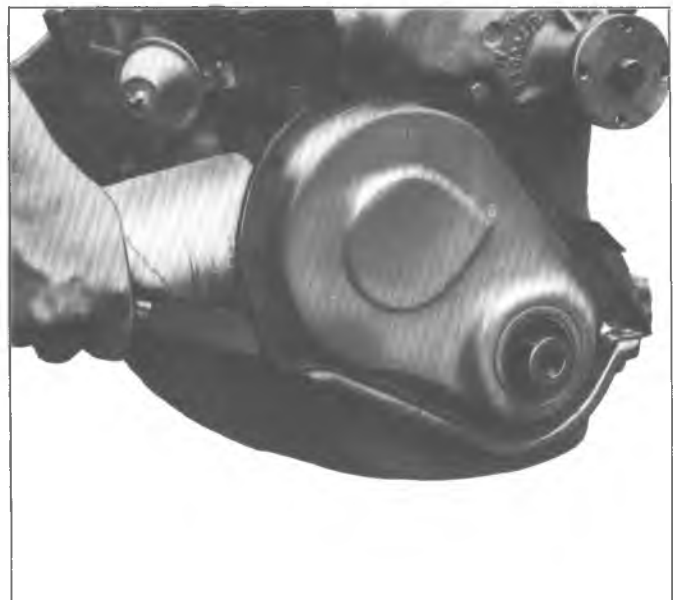

Fig. 18L—Cutting Tabs on Oil Pan Front Seal
5. Using a sharp knife or other suitable cutting tool, cut oil pan front seal flush with cylinder block at both sides of cover (fig. 18L).